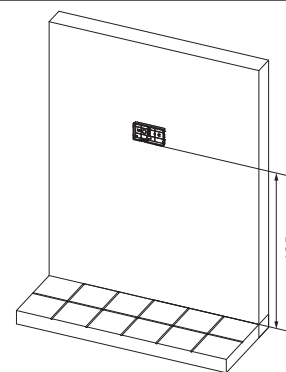
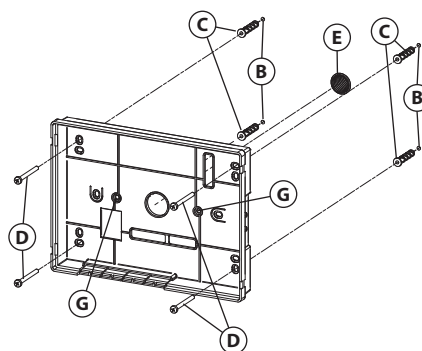
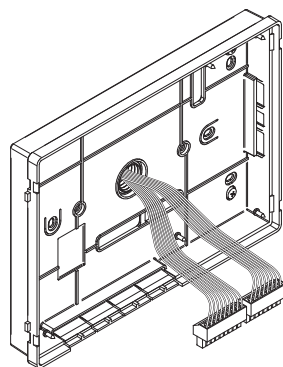
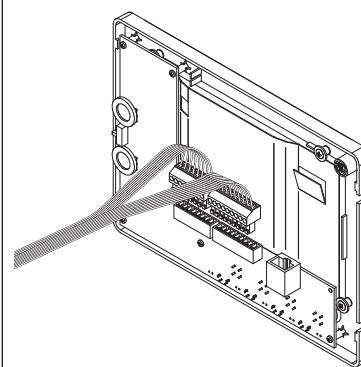

Fig. 3
Fig. 4
Fig. 5
Fig. 6
3. Put the base of the unit on the wall at approx 135cm from the finished floor (Fig. 3) to match the points for the fixing holes (B) (Fig. 4) remembering that the wires (E) (Fig. 4) must be fed through the large hole (F) (Fig. 4). If you use the flush mounting box 503, embed it into the wall vertically at approx. 140cm from the finished floor and the base.
4. Following Fig. 4, make the holes (B), insert the wall plugs (C) and fix the base with the screws (D) feeding the wires (E) through the hole (F). If you have used the box 503, fix the base to the wall through the holes (G) using the screws (D).
5. As shown in Fig. 5, connect the wires to the removable terminals following the provided installation diagram. Connect the terminal blocks to the electronics contained in the cover as shown in Fig. 6. Test system before closing. Contrast and hue trimmers can be adjusted only if the videophone is open. To activate the display and see changes use the "Camera Recall" function by pressing  button.
1. Remove the terminal side covers by unscrewing the retaining screws (**Fig. 3**);
2. Fix the power supply to a DIN rail (**Fig. 4**) or directly to the wall using two expansion type screws (**Fig. 5**);
5. When all connections are made replace and fix the terminal covers with the relevant screws (**Fig. 6**);